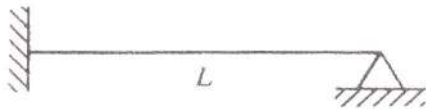

Fig. 3
8. For the beam shown in Figure 3, determine the natural frequencies using two elements. Let  $E$ ,  $\rho$ , and  $A$  be constants for the beam. 10